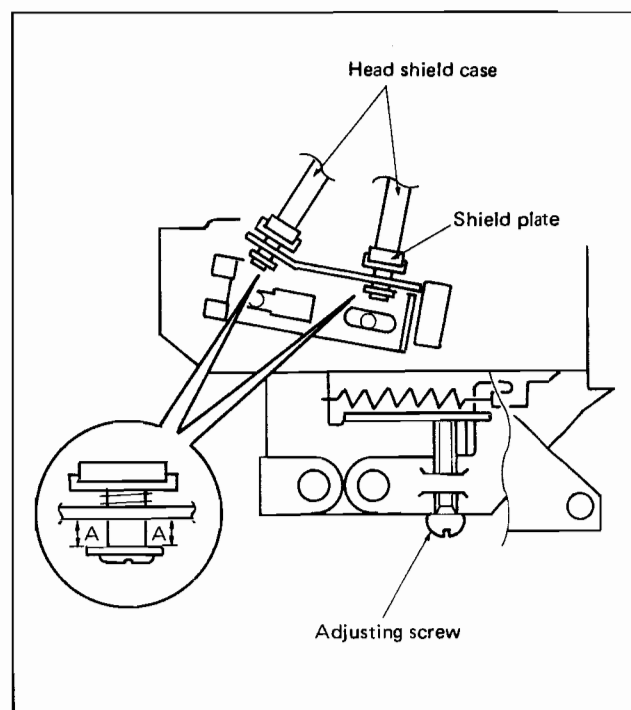

Fig. 5-13.
- During PLAY, the shield plate should fully contact the shield case. Also, adjust the head shield position by using the adjusting screw so that the clearance A (in Fig. 5-13) is 1 mm or less.